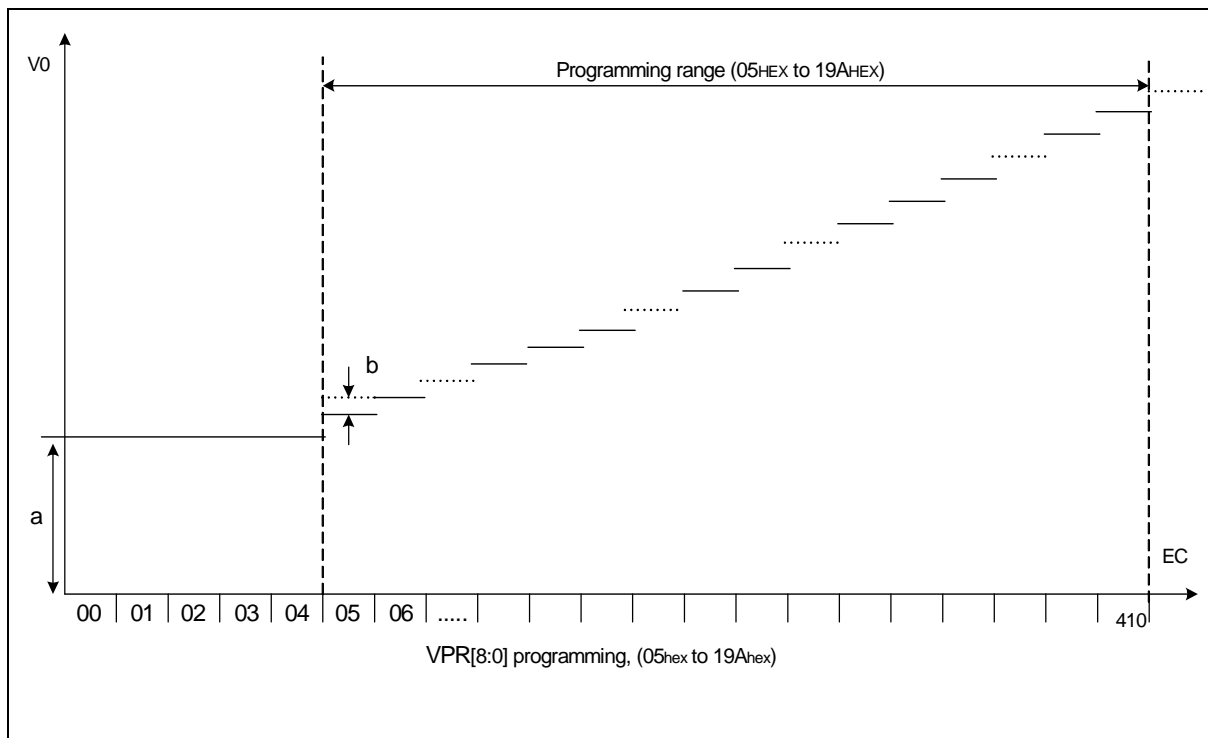

Fig. 7.10.2 V0 programming range
The VPR[8:0] value must be in the V0 programming range as given in Fig.7.10.2. Evaluating equation (1), values outside the programming range indicated in Fig.7.10.2 may result.